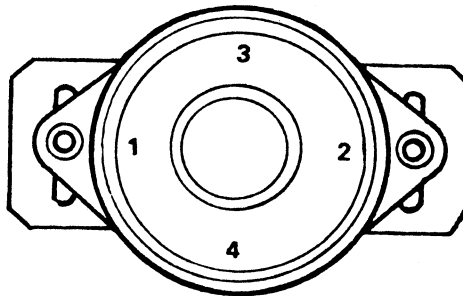

Figure 4-11. Pressure Points on Positioner
- e. As the positioner steps, apply gentle pressure to the body of the step motor at the points indicated (1, 2, 3, and 4) in Figure 4-11, until mis-stepping occurs. Assess qualitatively the pressure required to cause mis-stepping. If the pressure is equal at all four points, and/or if a small region of free rocking exists in both axes, this is acceptable; proceed directly to step p.